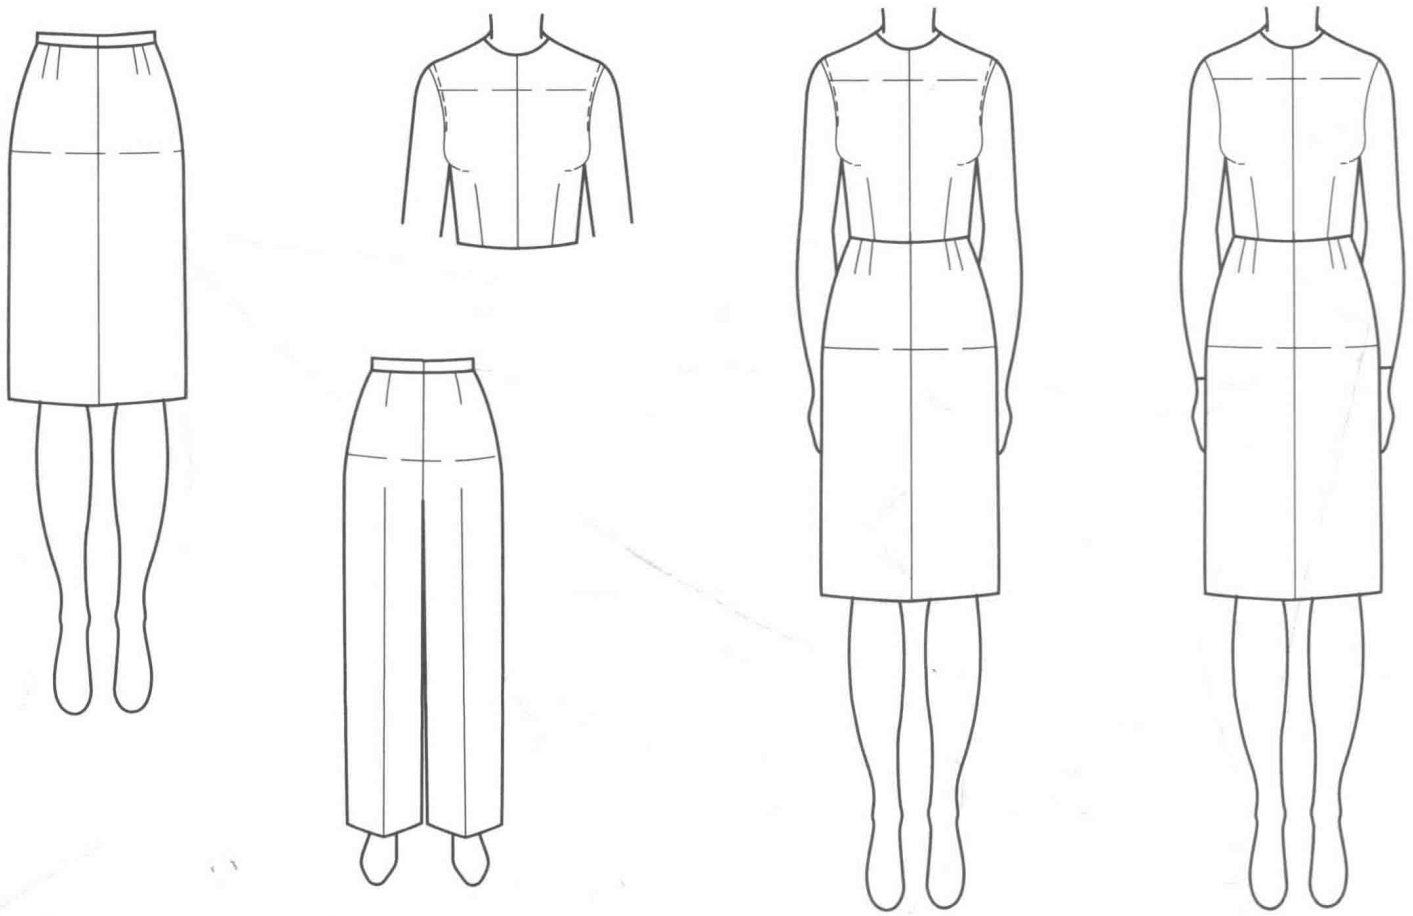

FIGURE 5.11 Trial garments are always fit right side out. Fitting lines are level, the goal of a successful fitting process.
1. Put the garment on right side out for fitting, never wrong side out (see Figure 5.11). Start fitting at the top of a unit, adjusting length first, then width.